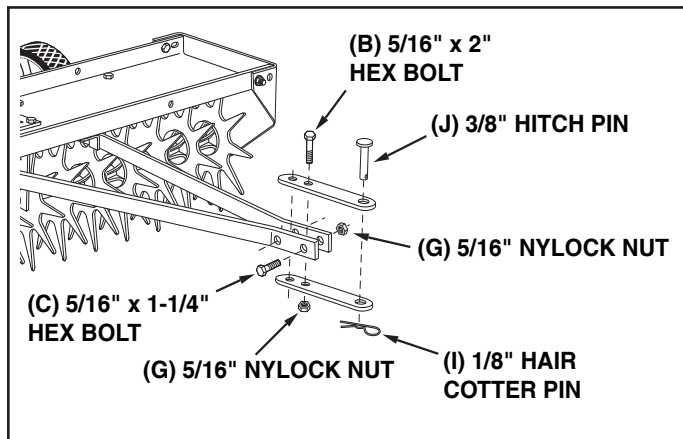

FIGURE 13 FRONT VIEW
20. Turn the aerator right side up and assemble the front ends of the hitch arms together using two 5/16" x 1-1/4" hex bolts (C) and 5/16" nylock nuts (G). **Do not tighten yet.** See figure 13.
21. Assemble the two hitch brackets to the top and bottom of the hitch arms using two 5/16" x 2" hex bolts (B) and 5/16" nylock nuts (G). **Do not tighten yet.** See figure 13.
22. Assemble the 3/8" hitch pin (J) through the hitch brackets and secure it with a 1/8" hair cotter pin (I). See figure 13.